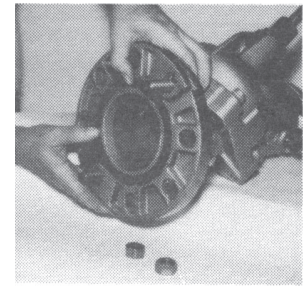

Fig. 3F
4. Position the assembly onto the mating flange and install all flange bolts, being sure to remove **Positioning Sleeves** (Fig. 3F).